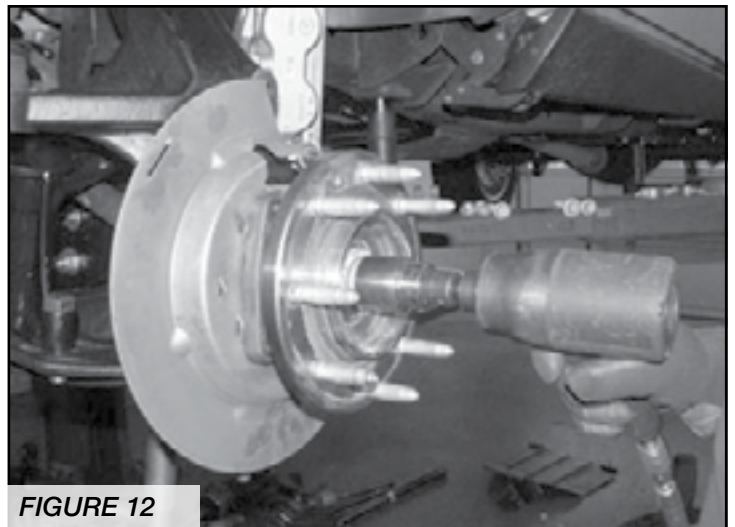

FIGURE 12
25. Install the axle nut and torque to 165 ft-lbs. Replace axle nut cover. **SEE FIGURE 12**